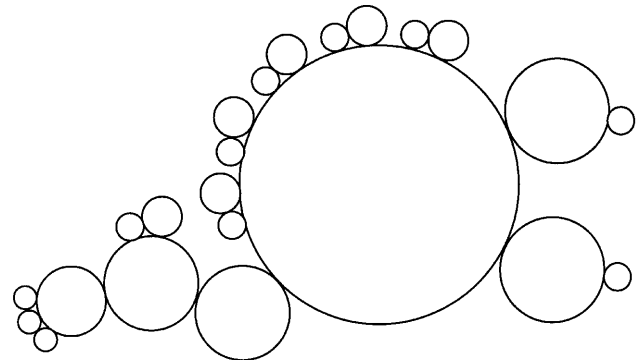

Figure 10. Heavyweight Nonwovens Roller-Top Card
*The Heavyweight Nonwovens Roller-Top Card.* This card performs best on medium to coarse synthetic fibers or fiber blends at high throughputs. A larger lickerin and multiple feed rolls or an inverted feed plate make it ideal for processing longer fibers (Figure 10). Opening at the lickerin region is limited and, as with lightweight nonwovens roller-top cards, blending and carding are performed by workers and strippers. Presenting cotton fibers to a heavyweight nonwovens card is possible, but not feasible. Inadequate control of short cotton fibers at the feed section and through the cylinder tops will create neps.